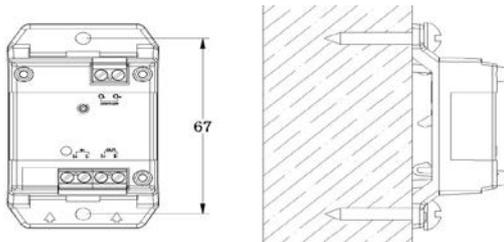

Fig. 5
- 4) The isolator can also be installed in the enclosure by 4 mounting screws as shown in Fig.5.